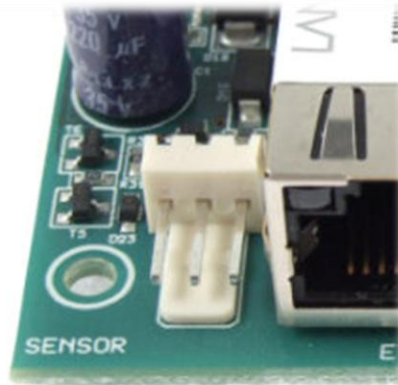

Fig. 8 – connector for the thermometer (here: Quido ETH 4/4)
- 3) If your Quido enables connection of a thermometer, the board includes a connector (with three terminals - see Fig. 8) labelled SENSOR (or TEMP). Here you can connect the temperature sensor. (The thermometer needs to be connected only if you want to measure temperature or use one of the functions of temperature monitoring.)5